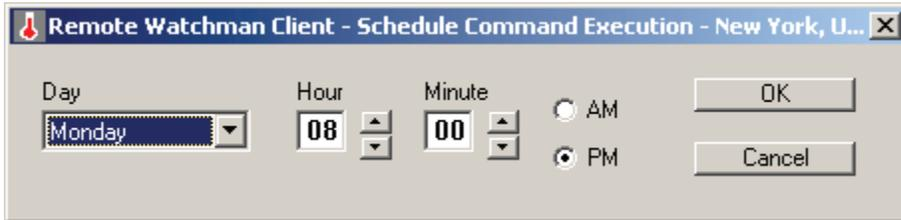

Figure 5b
**Scheduled event:** By double clicking inside the “Scheduled event” text box you can bring up the Scheduled Command Execution dialog as shown in Figure 5b. Using this dialog you can set the day of the week and time when you would like a command or script to be executed. If a scheduled command has been executed, its time specification must not be reprogrammed until 10 minutes after the event occurred.